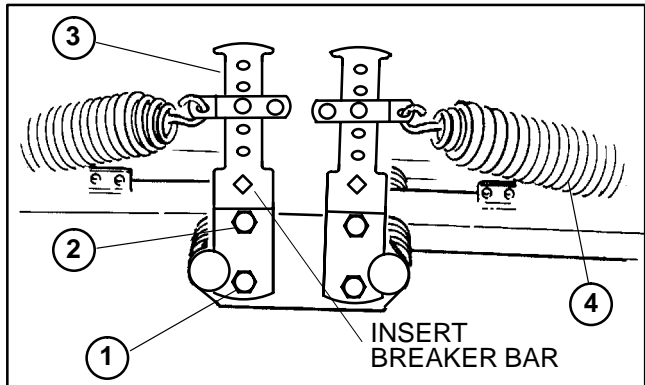
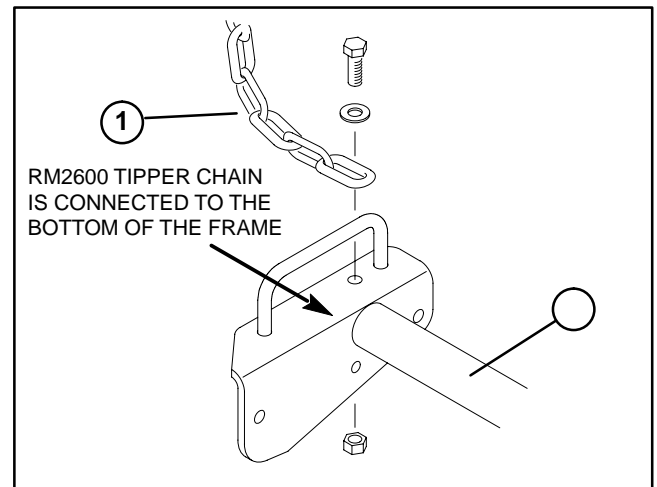

Figure 15
Figure 18
Cutting Unit Removal and Installation (Fig. 15 through Fig. 18)
3. Loosen top cap screw. Put breaker bar in the square hole and hold tension of spring (Fig. 15).
4. Remove bottom cap screw and slowly relieve the remaining tension on the spring (Fig. 15).
8. Disconnect tipper chain on front carrier frame (Fig. 18). Slide carrier frame off the pivot rod.
3. Connect tipper chain to the front carrier frame (Fig. 18).
6. Insert a breaker bar into the square hole in the counterbalance arm, and pivot the counterbalance arm back to its original position aligning the cap screw hole (fig. 15).
7. Secure bottom of counter balance arm to frame with the bottom capscrew. Tighten top cap screw (Fig. 15)